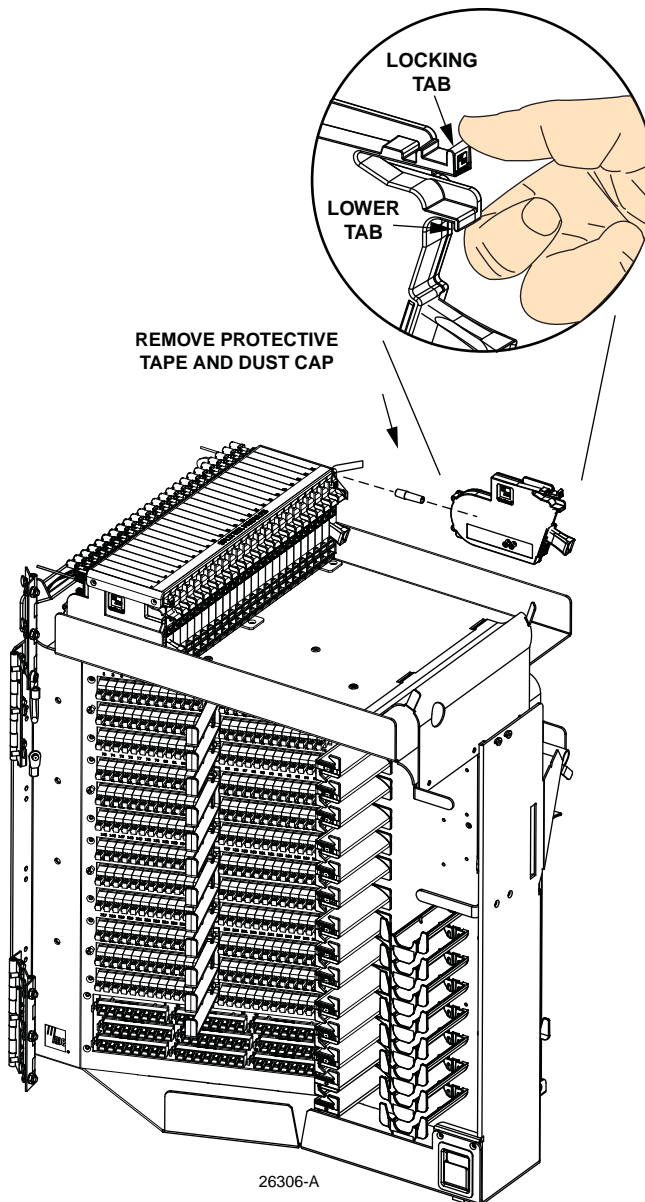

Figure 21. Splitter Installation
7. Remove the protective tape and dust cap from the splitter connector as shown in Figure 21.
9. Grasp the splitter using thumb and forefinger (see Figure 21) and gently squeeze the locking tab against the lower tab.